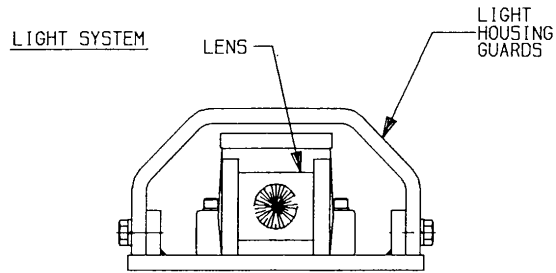

FIGURE 1
- (WEEKLY) 2. () Headlights are guarded by typical guard as shown in Figure 1, or protected by position.